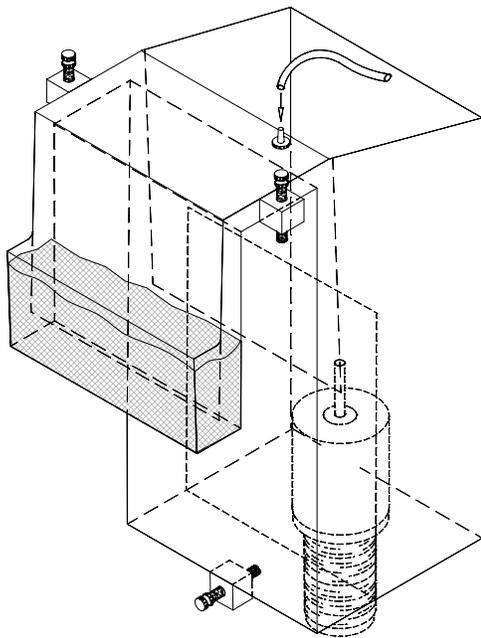

Fig. 1
- (1) Aqua Lifter pump and Acrylic Lid (included in Deluxe models)*
6. *Adjust the height of the unit with the two top adjustment screws so the water level is about 1/4" above the edge of the front chamber.(FIG 1) Make sure that the overflow is level with the water surface, not necessarily the tank, as some tanks may not be perfectly level. If you have small fish, raise the fish screen above the water level so that the fish cannot enter the overflow. If you don't have small fish, discard the fish screen.*